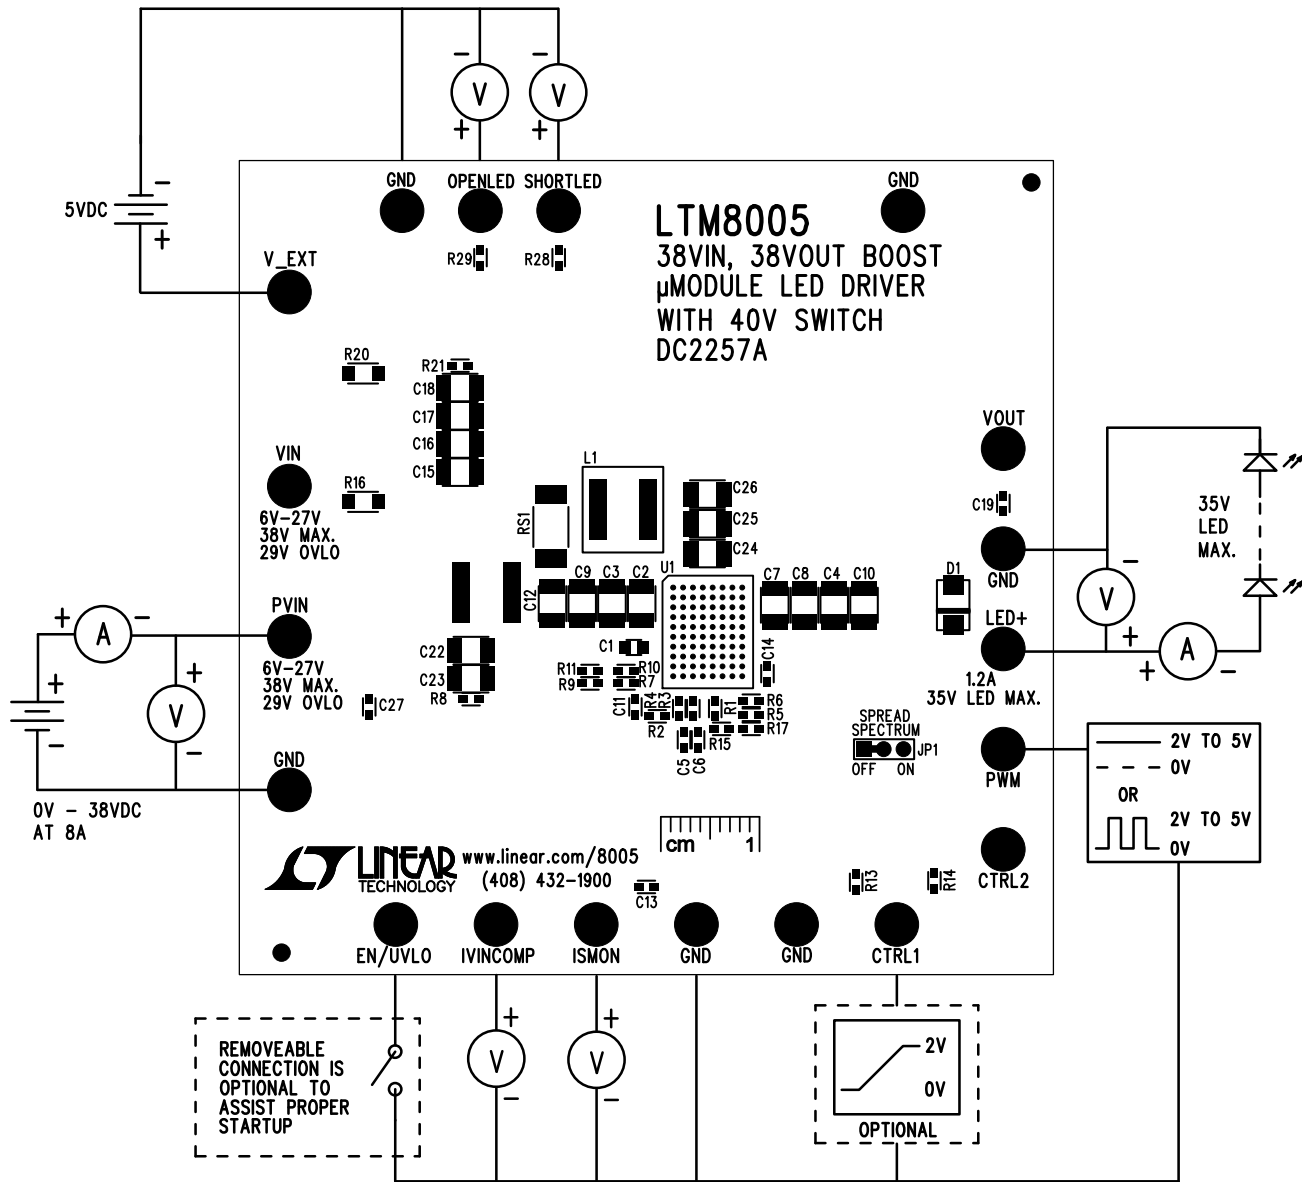

Figure 1. Proper Measurement Equipment Setup
To use DC2257A to evaluate the performance of the LTM8005, refer to Figure 1 for the proper measurement equipment setup and then follow the procedure below.
1. Connect a string of LEDs with a forward voltage of 35V or less, but greater than the PVIN voltage, to the LED+ and GND terminals on the PCB as shown in Figure 1.